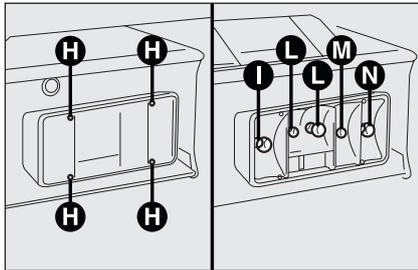

fig. 30a
- unscrew the four bolts **H**-fig. 30a and replace the bulbs: